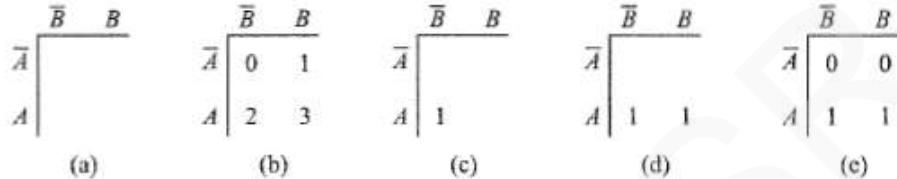

Figure 3.7: Constructing a kmap
- **Kmap** is a drawing that shows all the fundamental products and the corresponding output values of a truth table (Figure 3.7).